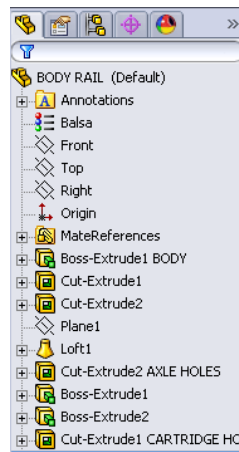
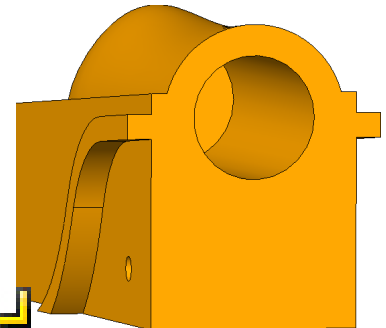

Fig. 113
Fig. 114
- Step 1. In the Feature Manager drag the **Cut-Extrude1 CARTRIDGE HOLE** below **Boss-Extrude2 (Extruded Fenders)** feature, **Fig. 113** and **Fig. 114**.